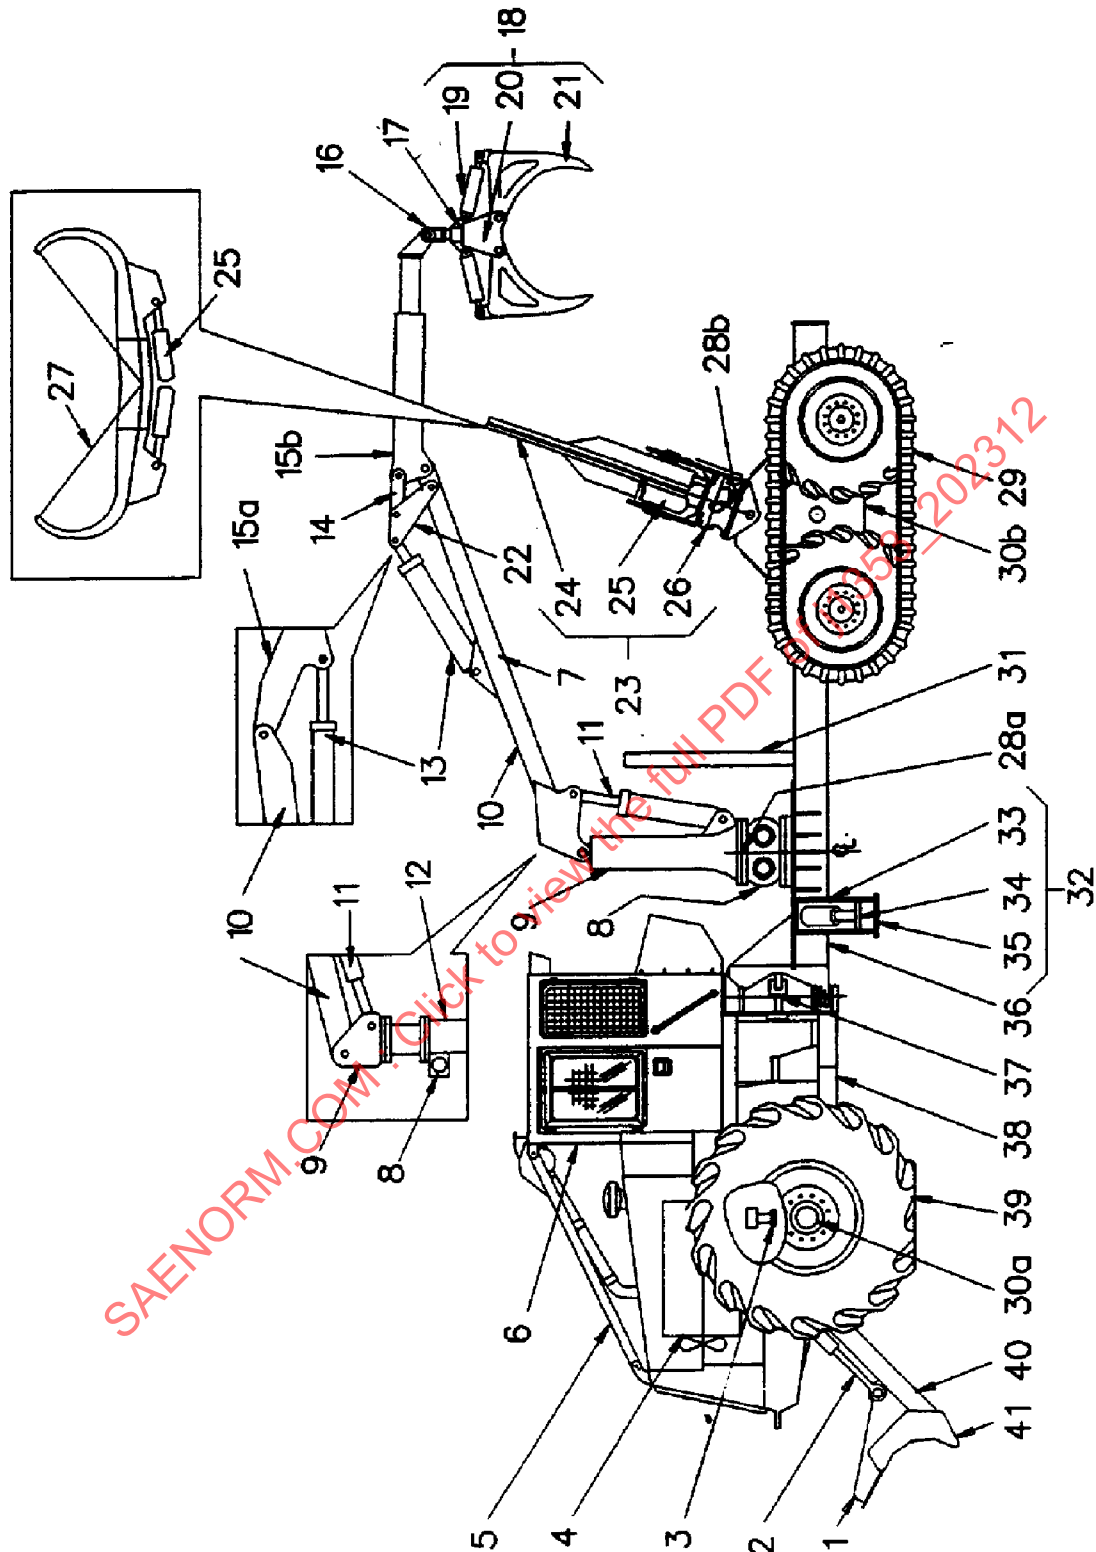

FIGURE 1 - CLAM BUNK SKIDDER
3.1 CLAM BUNK SKIDDER (Figures 1 and 2)